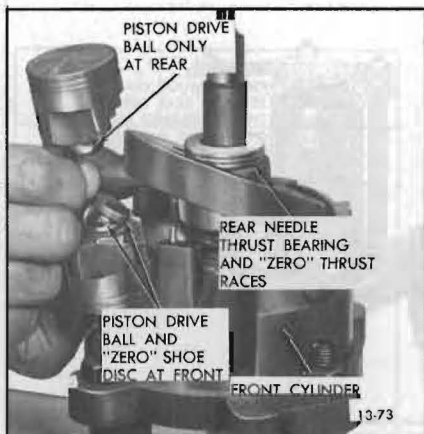

Figure 13-73—Installing Piston Drive Ball into Cylinder Half
7. Rotate shaft and swash plate assembly until high point of swash plate is over No. “1” cylinder bore. Position No. “1” piston onto swash plate (see Figure 13-73) and lower the piston and swash plate so the front end (notched end - see Figure 13-70) of the piston enters the cylinder bore.